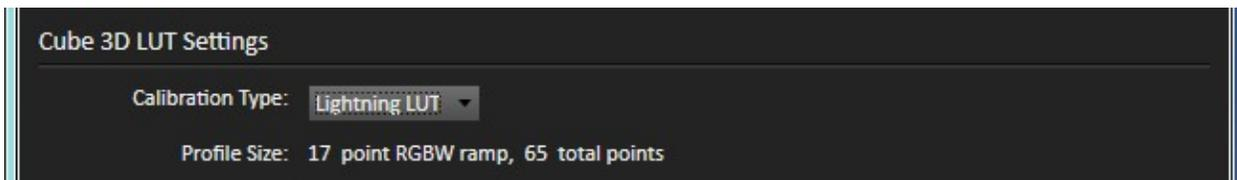

Figure 4: The Lightning LUT process uses an innovative conversion matrix algorithm to produce a high quality calibration LUT in just five minutes or less.
1. On the AutoCal Setup dialog, under Calibration Type, select "Lightning LUT" (figure 4).